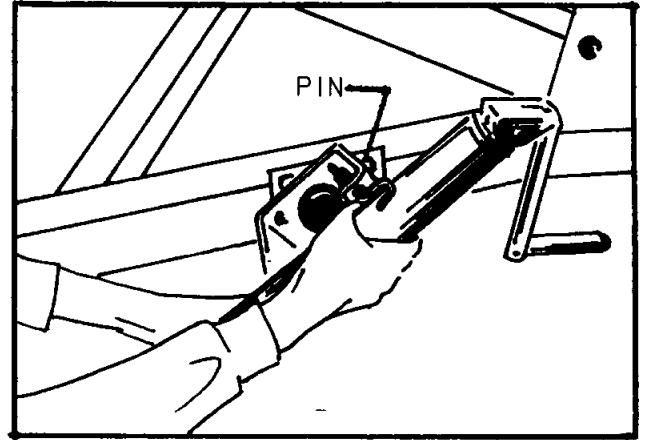

FIGURE 2
4. Pull the lock pin (located on the tongue jack) and let the tongue jack swing down into position. Allow the lock pin to lock the tongue jack in place. See Figure 2.